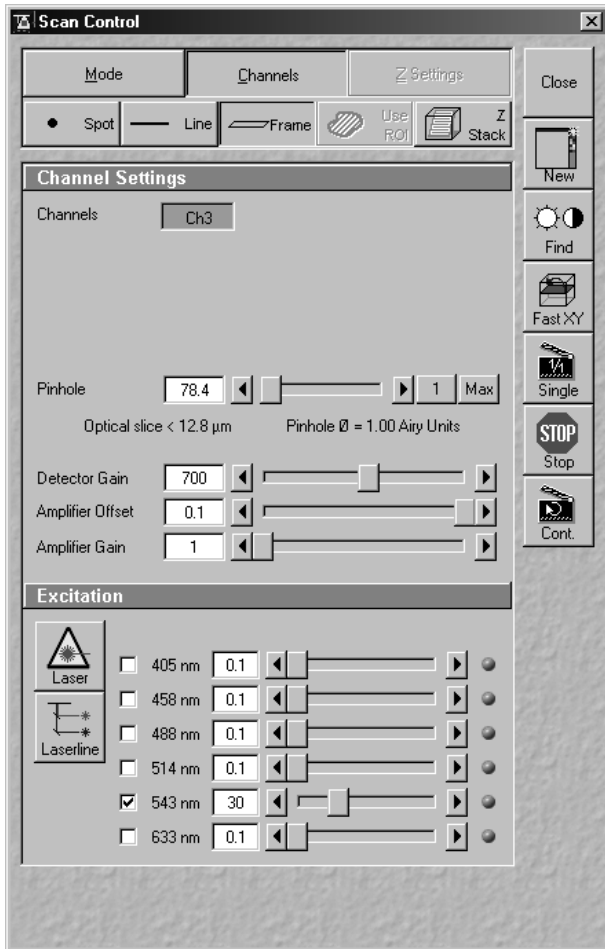

Fig. 5-300 Scan Control window (Channels)
- In the **Scan Control** window, click on the **Cont.** button (see Fig. 5-300).